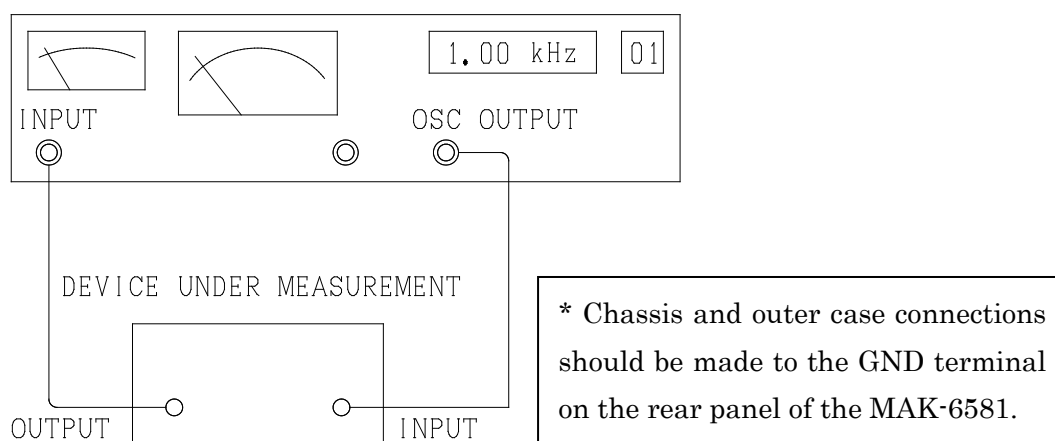
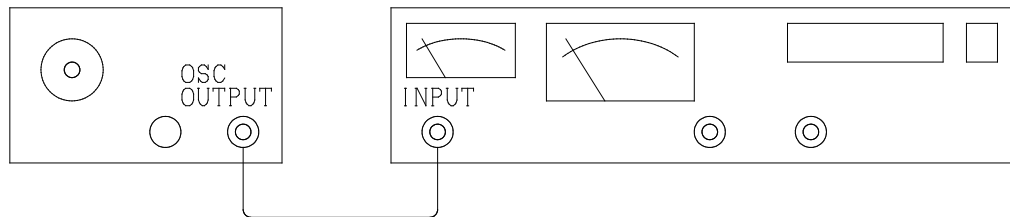

Fig. 4 Distortion measurements using the internal oscillator
Fig. 5 Distortion measurement using an external oscillator
- (1) Connect the MAK-6581 to the device under test as shown in Fig. 4.
- (2) To measure in units of dBm, it is necessary to terminate the input of the device under measurement with $600\ \Omega$.
- (1) Using the distortion measurement section of the MAK-6581 to measure distortion using an external signal, connections should be made as shown in Fig. 5, without regard to the internal oscillator of the MAK-6581.
To make connections for use as a level meter, refer to Fig. 4 and Fig. 5 describing distortion measurement using the internal oscillator and external signal source, respectively.
For S/N measurement, make connections as shown in Fig. 4.